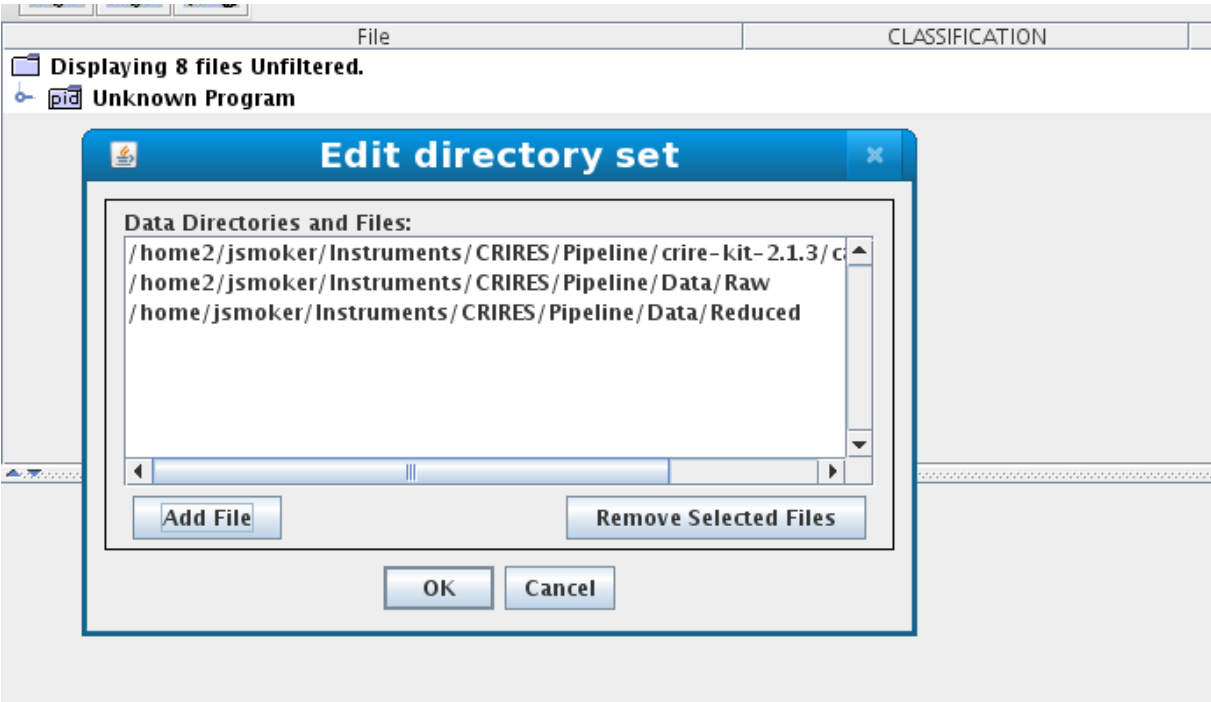

Figure 18: Adding files in gasgano.
- File → Add/Remove file → Add file → (in this case /home/jsmoker/Instruments/CRIRES/Pipeline/Data/Raw and Reduced) then OK (see Fig 18). At this point the CRIRES raw files are visible in blue.